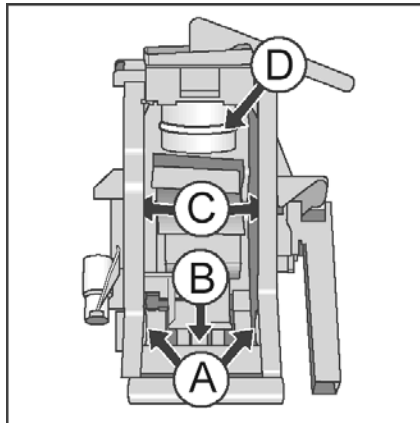

Figure 5-22: Brew Unit lubrication points
2. Refer to figure 5-22; lubricate the following: